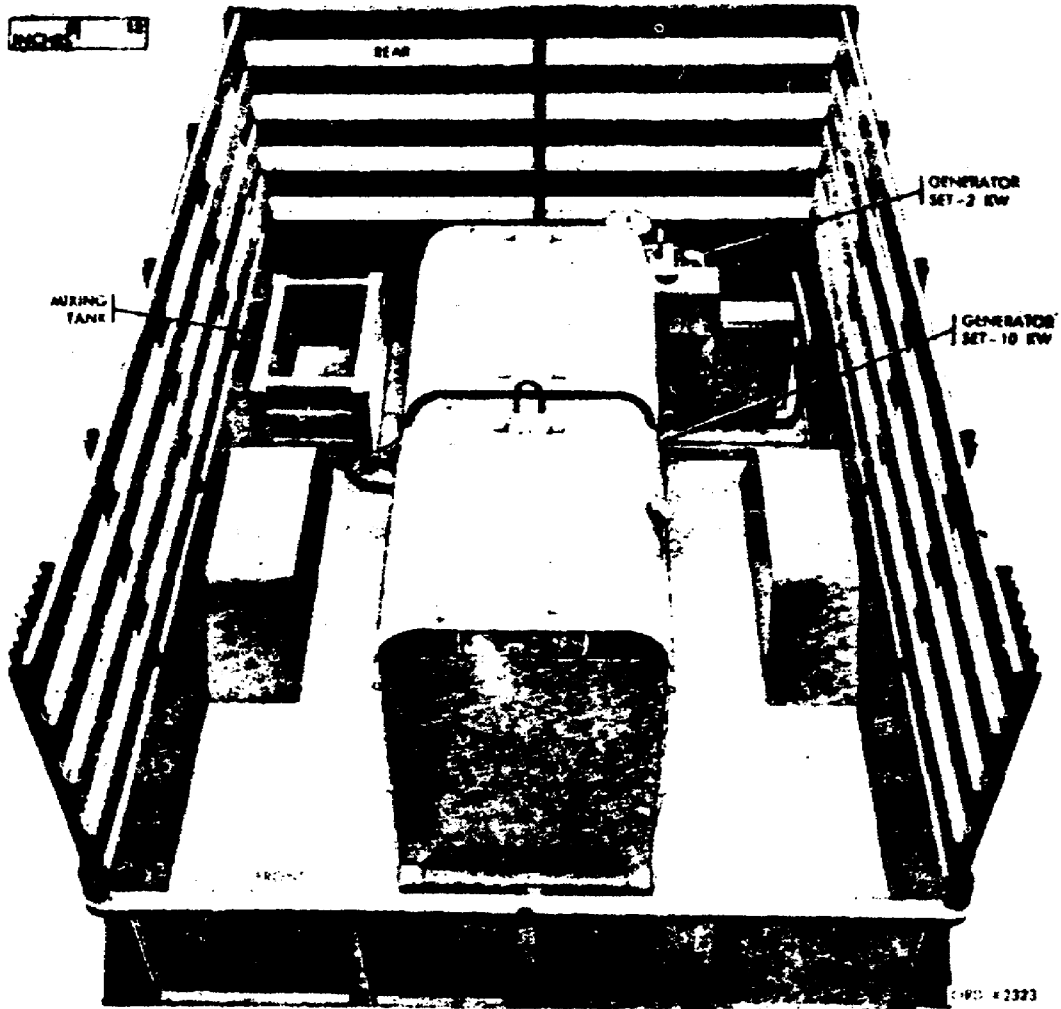

Figure 7. Trailer basic set - equipment installed in trailer.
a. The basic set installed into the M109, as required by TB 9-4910-337-30/1, utilizes one 1-1/2-ton, 2-wheeled, cargo trailer. Figure 7 shows the equipment that is installed on the trailer. There are two generators: a 10KW to supply 115 volts AC and a 2KW to supply 12 volts DC-for charging batteries. There is also a mixing tank for making electrolyte for batteries.